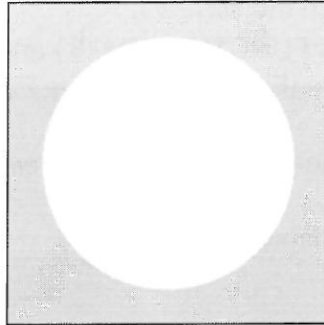

Fig. 5.35 After adjusting isochromaticity
12. Move the center of the arc to the center of the image display window using the DEF/STIG knobs (L1-⑩ and R1-⑤).
14. Adjust with the FL knob (Panel L1-④) to make the bright part of the image as large as possible (Fig. 5.35).